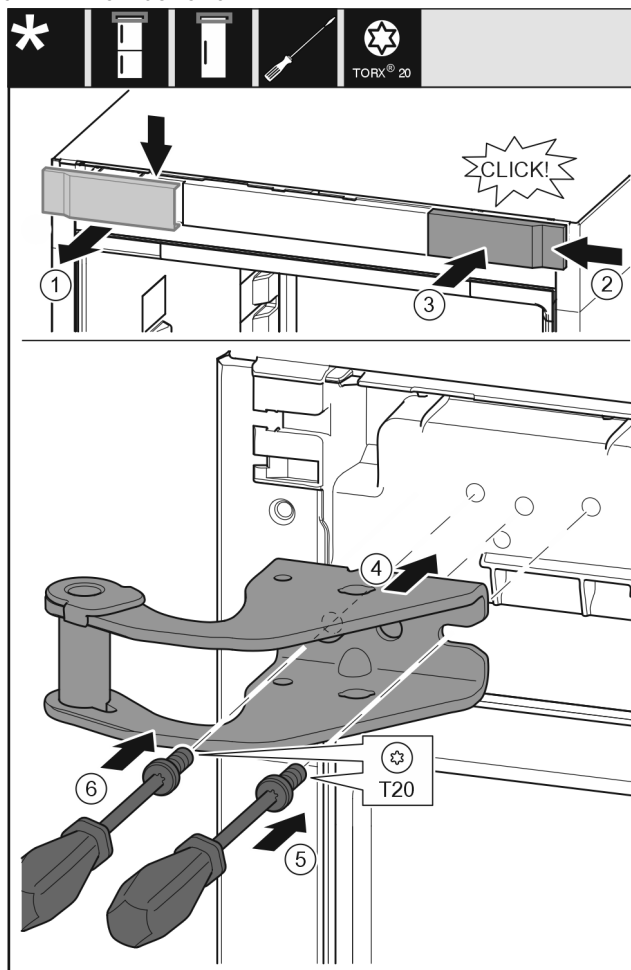

Fig. 31
- Take off the cover from above to the front. *Fig. 31 (1)*
- Rotate the cover 180° and clip onto the other side from the right. *Fig. 31 (2)*
- Latch the cover into place. *Fig. 31 (3)*
- Position the upper bearing bracket. *Fig. 31 (4)*
- Insert the screw with a T20 screwdriver and tighten it. *Fig. 31 (5)*
- Insert the screw with a T20 screwdriver and tighten it. *Fig. 31 (6)*